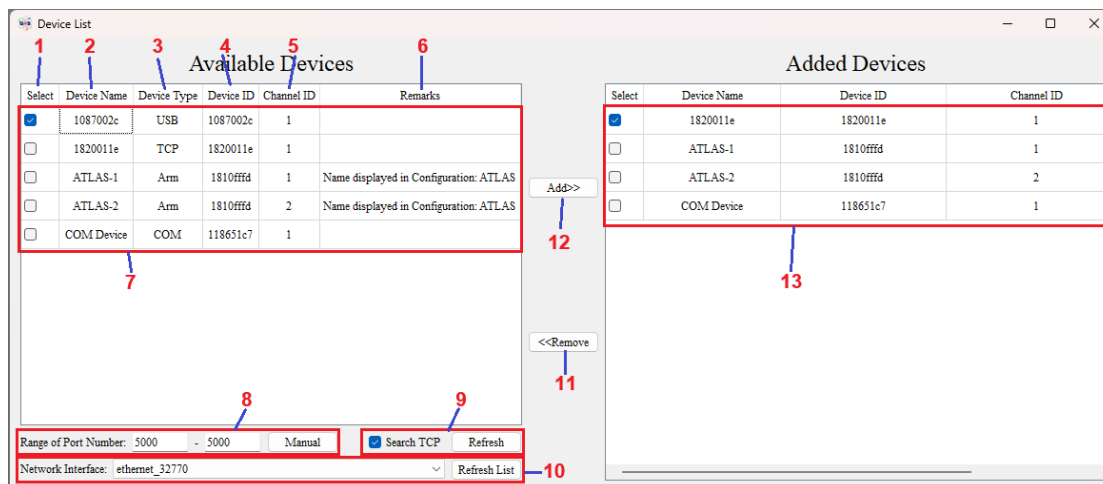

Fig.22: Device List window
The Device List window is shown in Fig.22:
- ① Selection: Check and uncheck, used for device addition or removal.
- ② Device Name: Displays the custom name of the offline device, which is also the unique device identifier of this offline device. It cannot be the same as the device number of any device in the device list in Fig.22.
- ③ Number of Channels: Displays the set number of channels of the offline device.
- ④ Add: Add the checked devices in the left device list to the added device list and display them on the main interface.
- ⑤ Remove: Remove the checked devices in the right added device list from the added device list and remove them from the main interface.